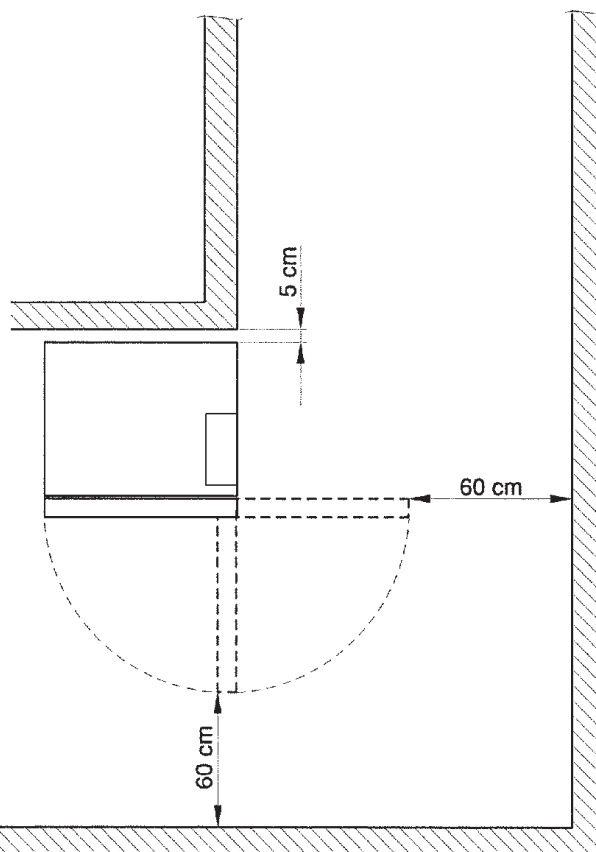

fig.7
- If positioned near a wall, there must be a minimum distance of at least 5 cm from the wall (fig. 7), so as to allow regular ventilation. Under no circumstances cover the vending machine with cloths or similar.
If installation takes place in safety evacuation corridors, make sure that the machine with the door open assure sufficient space for people to pass by (fig. 7).